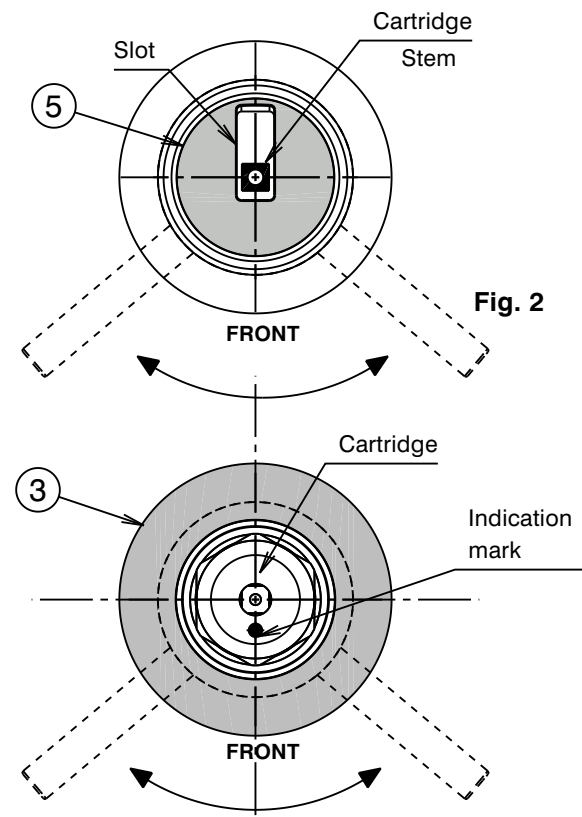

Fig. 2
- 1) Ensure that universal hob mixer body (1) 99687 was installed at the required position and orientation. The handle operates symmetric to the indication mark on the cartridge (1) and hand tighten until 'O'ring firmly contacts deck. Clean all contact surfaces of swivel cap (5), 'O'ring and thrust washer(4), ensure they are clean and free from any debris. Lubricate the thrust washer(4), underside of cap (5) and 'O'ring then fit the thrust washer (4) around the nut inside mixer body (1). Ensure that the cartridge stem is in closed position, fit the swivel cap (5) along with 'O'ring into the mixer (1) and ensure the swivel cap cut-out is positioned as shown in Fig.2. Fit the insert (6) over the cartridge stem and push it down. Fit handle body (7) taking care that it is pushed fully onto cartridge stem & bottomed on the plastic insert (6) then tighten screw (8) using the 2.5mm allen key (11). Screw in handle pin (11) together with 'O'-Ring (10) into handle body (7) and hand tighten firmly, taking care not to damage decorative finish.
- 2) Carefully unscrew handle pin (11) by hands. Using 2.5mm allen key (9), loosen screw (8) and remove handle body (7). Remove plastic insert (6) then extract swivel cap (5) and thrust washer (4) from the mixer body (1), taking care not to damage the decorative finish. **Hint:** The small end of the allen key (9) can be inserted into the slot in the swivel cap (5) and used to lever the cap vertically to remove.
- 3) Ensure inside face of mixer body (1) is clean. Check that seal is in position in base of new cartridge (13). Fit new cartridge (13) into mixer body (1), taking care that two lugs on base of cartridge (13) fit into mating holes in mixer body(1).
- 4) Screw on nut (12). **Important:** Nut (12) should be tightened to a torque of 7.5 Nm.
- 5) Clean all contact surfaces of swivel cap (5), 'O'ring and thrust washer (4), ensure they are clean and free from any debris. Lubricate the thrust washer(4), underside of cap (5) and 'O'ring then fit the thrust washer (4) around the nut (12). Ensure that the cartridge stem is in closed position with the flats on the stem orientated square with the outlet. Fit the swivel cap (5) along with 'O'ring into the mixer body (1) and ensure the swivel cap cut-out is positioned as shown in Fig.2. Fit the insert (6) over the cartridge (13) stem and push it down.
- 6) Fit handle body (7) taking care that it is pushed fully onto cartridge stem & bottomed on the plastic insert (6) then tighten screw (8) using the 2.5mm allen key (9). Screw in handle pin (11) together with 'O'-Ring (10) into handle body (7) and hand tighten firmly, taking care not to damage decorative finish.